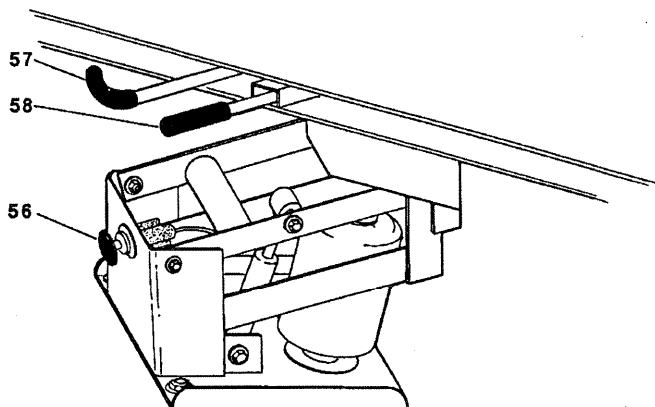

Fig. 3-13 Seat Adjustment Controls
56. Seat Height Adjustment Control See Fig. 3-13
See Fig. 3-13